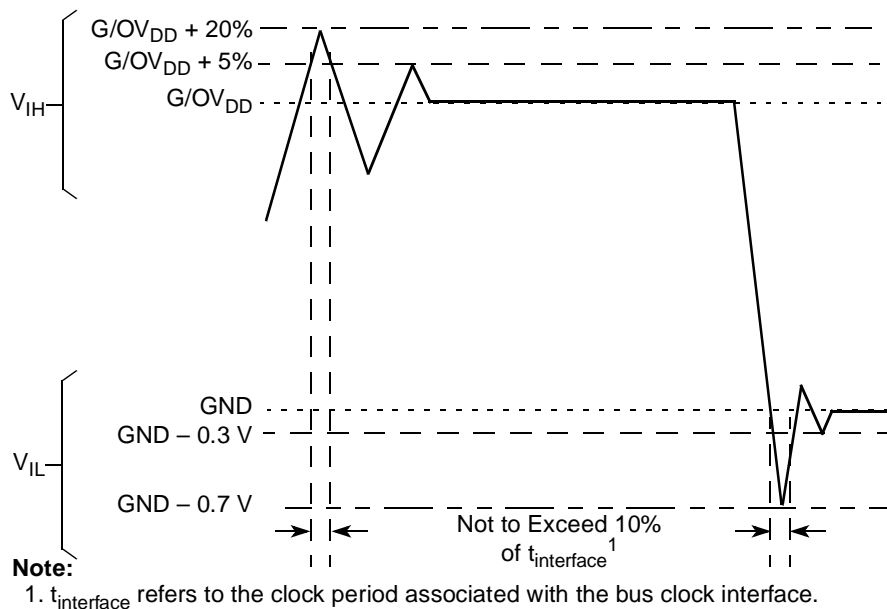

Figure 2. Overshoot/Undershoot Voltage for  $GV_{DD}/OV_{DD}$
- (M,O) $V_{IN}$  and  $MV_{REF}$  may overshoot/undershoot to a voltage and for a maximum duration as shown in Figure 2.
Figure 2 shows the overshoot and undershoot voltages at the interfaces of the MPC8323E.